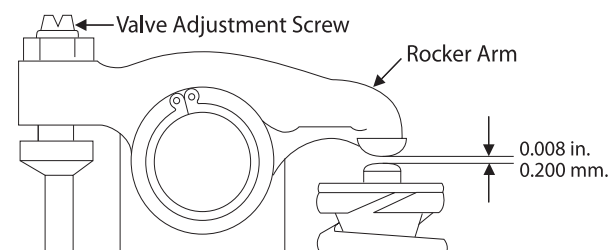

Figure 7: Valve Adjustment
4. Loosen the lock nut and adjust the clearance between the rocker arm and valve guide of both the intake and exhaust valves with the adjustment screw (Figure 7). Clearance on both intake and exhaust valves should be 0.008 in. (0.2 mm).